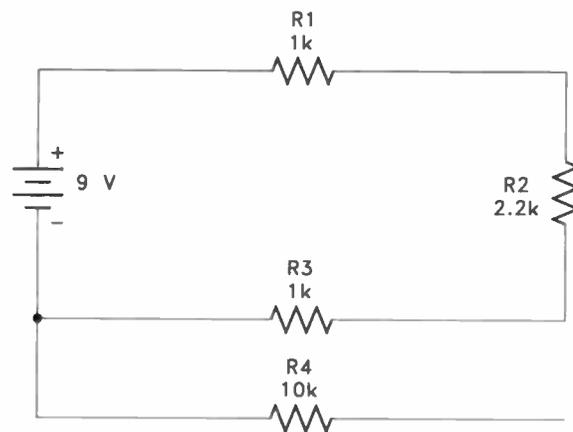
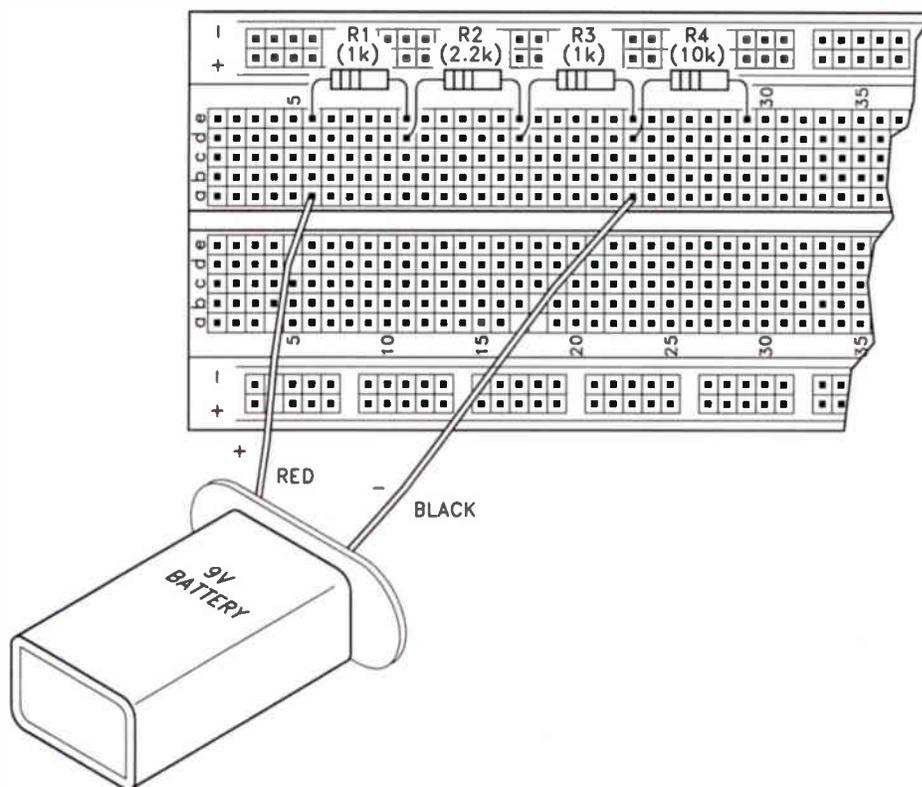

Figure 2-2. Schematic of the circuit for Experiment 2.
Figure 2-3. Pictorial of the circuit for Experiment 2.
Now construct the circuit shown in Figure 2-2. Your wiring should look something like the illustration in Figure 2-3.
**Step 1.** Examine Figure 2-2. Notice that R1, R2, and R3 form a series circuit and are connected across the 9 V battery. R4 is *not* in the circuit.